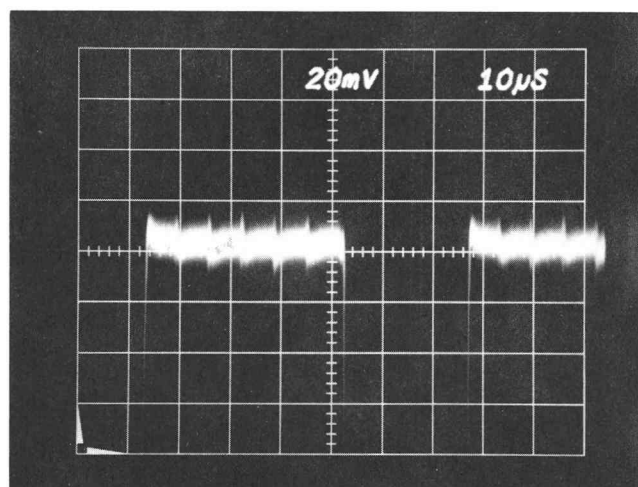

Fig. 3-18. Differential Gain check.
- e. Check—Tilt on the demodulated subcarrier signal should not exceed 1% of the value noted in part c. See Fig. 3-18. (Tilt caused by changing luminance levels can be checked by switching staircase steps on and off.)